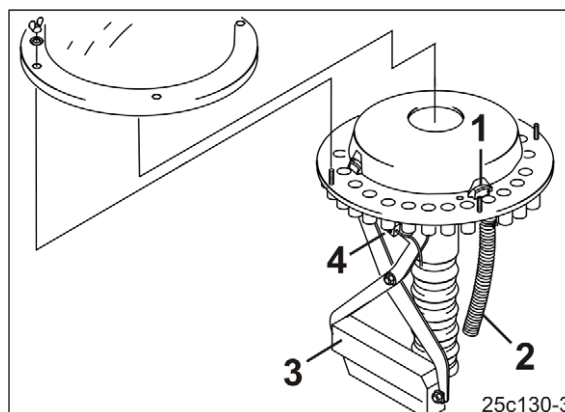

Fig. 95
- The tramline circuit on the distributor head uses sliders (Fig. 95/1) to block the seed feeding lines to the seed lines (Fig. 95/2) of the tramline coulter
Seed supply to the tramline coulter is interrupted as soon as the electric motor (Fig. 95/3) closes the appropriate seed tubes (Fig. 95/2) in the distributor head.
A sensor (Fig. 95/4) checks whether the sliders (Fig. 95/1), which open the and close the seed line tubes (Fig. 95/2), are working properly.